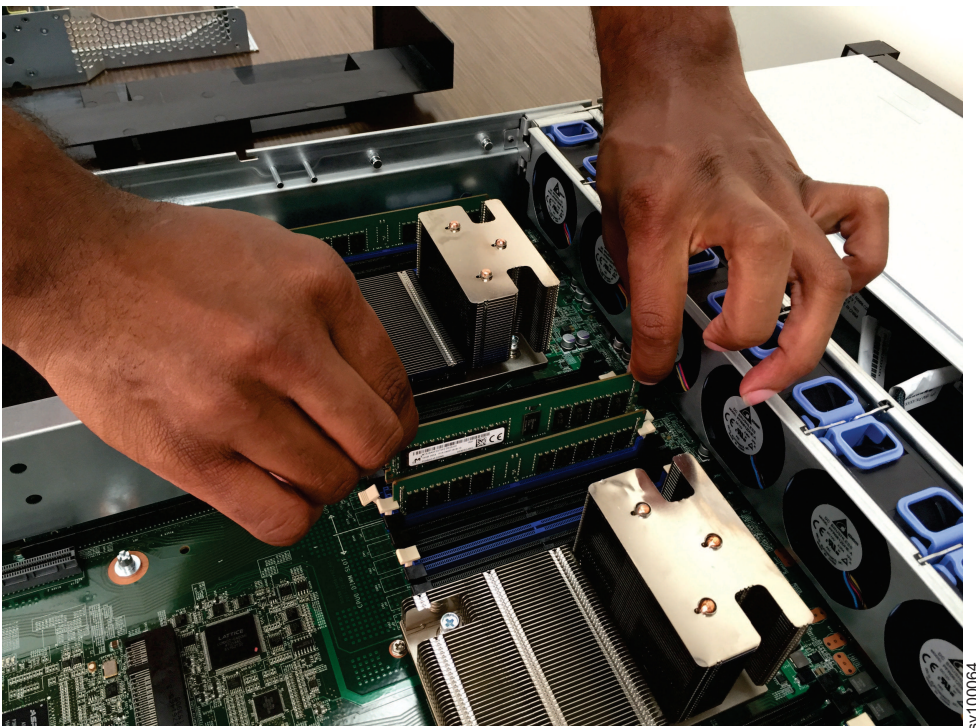

Figure 108. Removing a memory module
6. Lift the DIMM up and out of the slot, as Figure 108 shows.